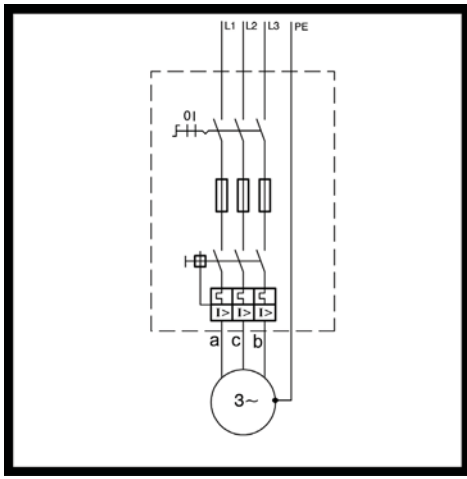

Fig.: 13
- 1 3-phase connection (fig. 13). Connect motor so that its direction of rotation corresponds to that of the unit. The connection features the usual circuit with a clockwise rotating field and an counter clockwise rotation for the motor shaft.